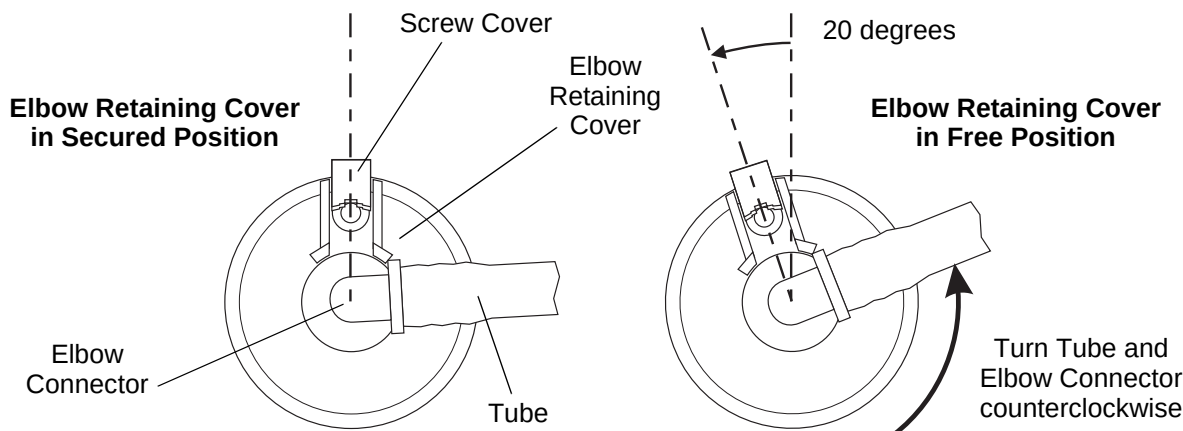

Figure 36 - Releasing the Hose Set Connector
- 8.3 Turn the elbow retaining cover approximately 20 degrees counterclockwise, to the "free" position (Refer to Figure 36).
Note: *To turn the elbow retaining cover more easily, use the tube and elbow connector to provide extra leverage. Turn the tube and elbow connector counterclockwise until the elbow connector touches the screw cover, and then continue turning them to turn the elbow retaining cover (Refer to Figure 36).*